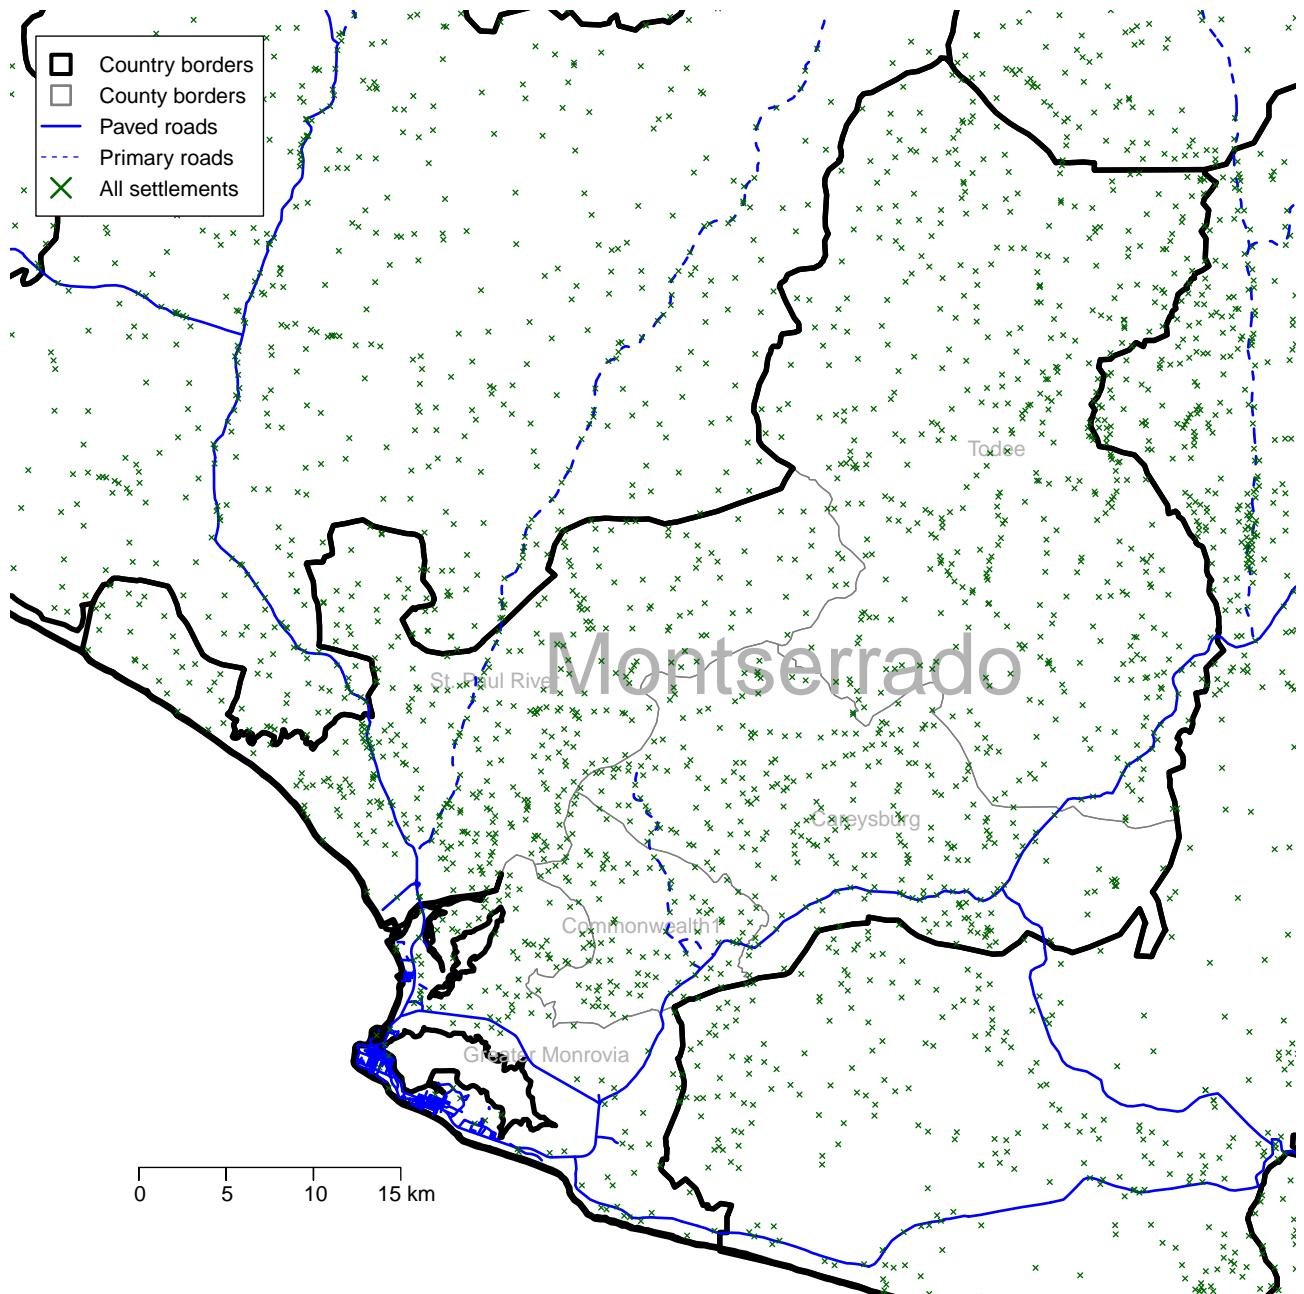
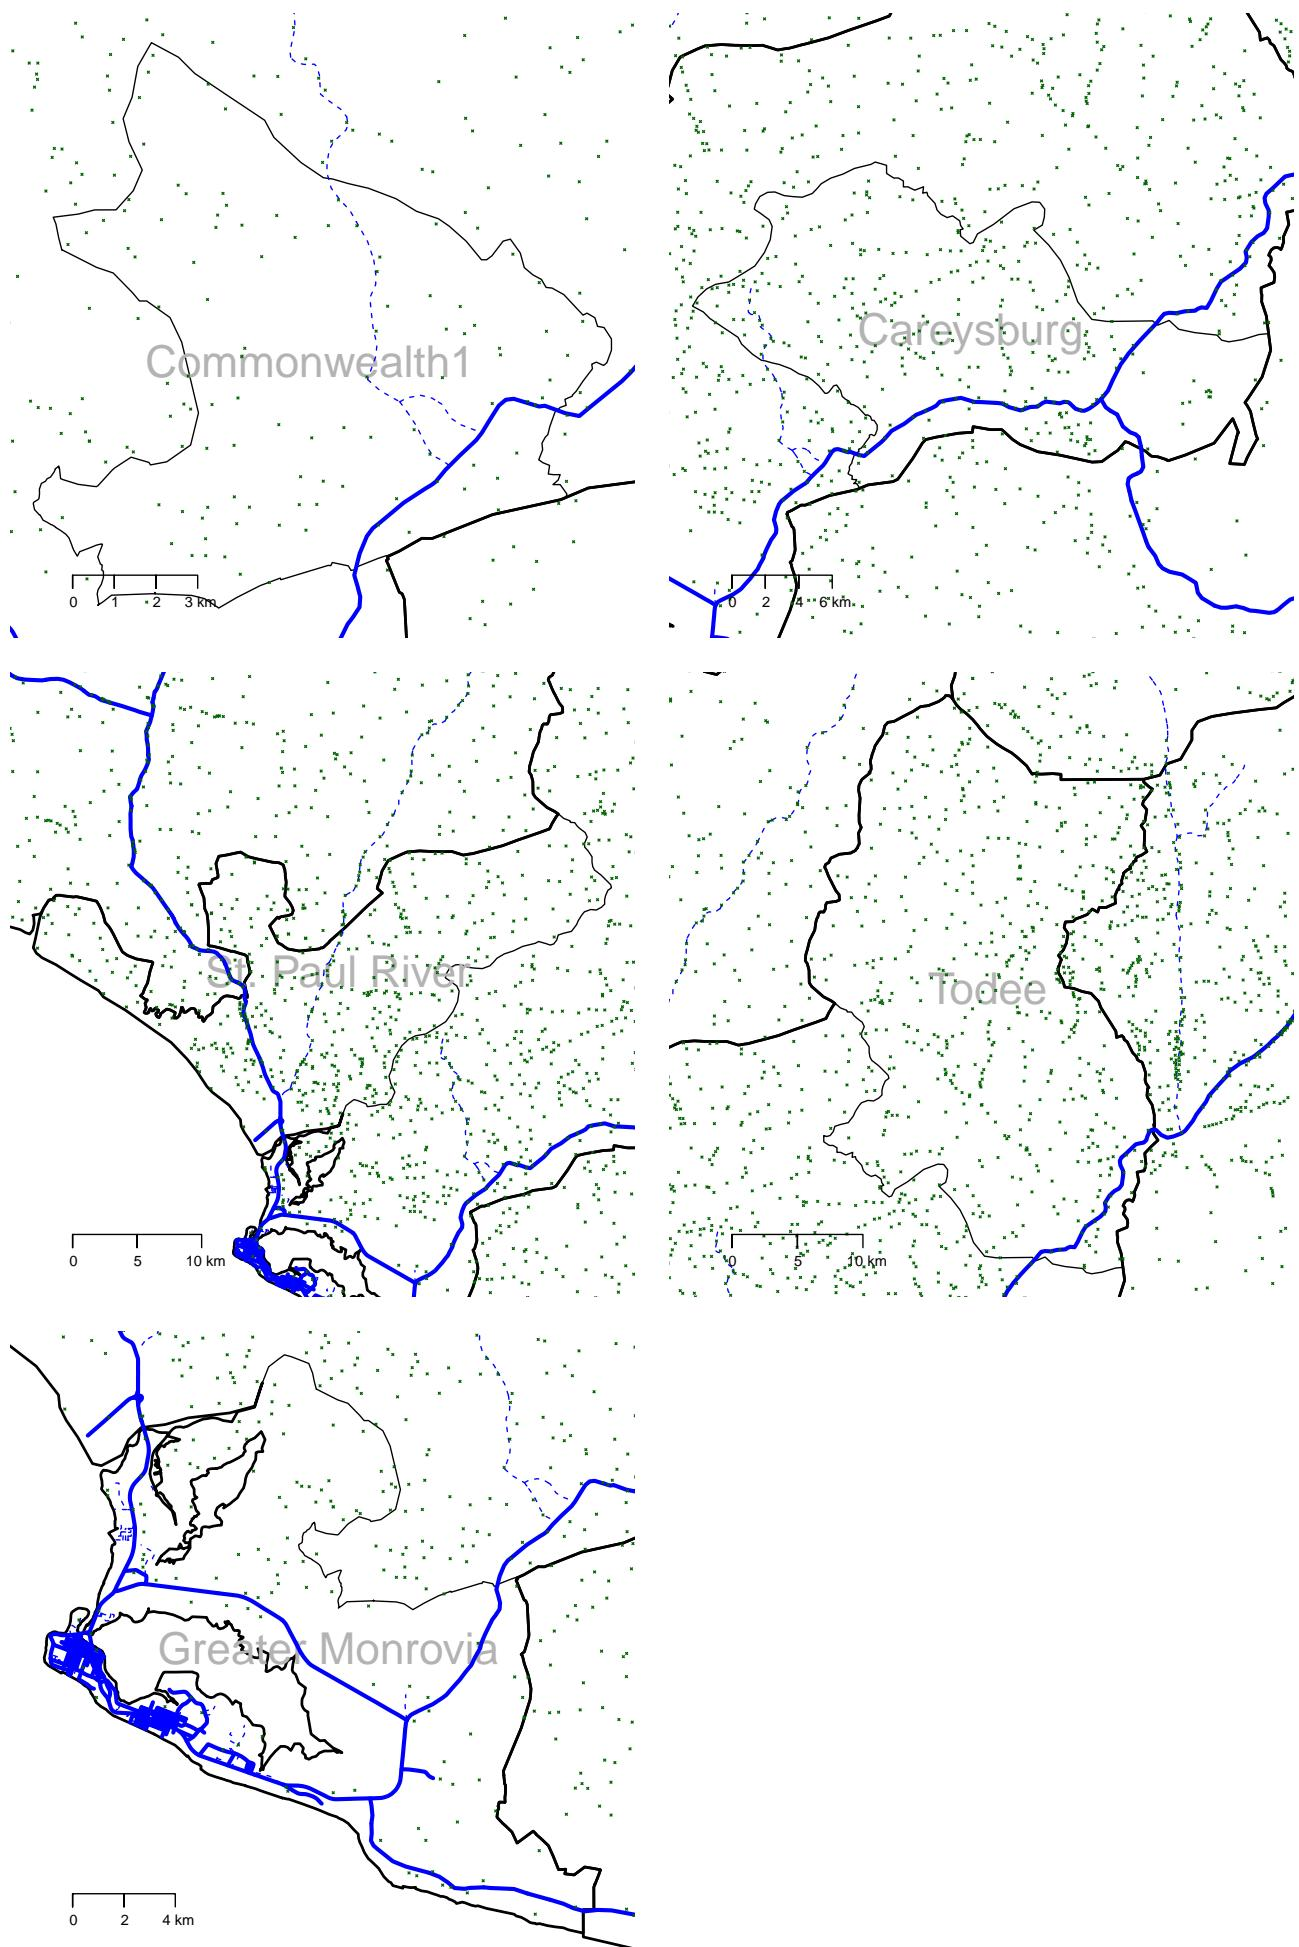

Figure 3.3: Large scale map of Montserrado county in Liberia showing all districts, roads and all settlements (towns, villages)
Figure 3.4: Large scale maps of 5 districts of Montserrado county in Liberia showing roads and all settlements (towns, villages)
- A collection of larger scale maps (a small area map but with good detail) of each of the selected counties and each of the districts within those counties in Liberia. Figure 3.3 is a large scale map of Montserrado county showing all districts, roads and all settlements. Figure 3.4 is a collection of large scale maps of each of the districts of Montserrado country showing all roads and all settlements.
The large-scale maps in Figures 3.3 and 3.4 will be useful for identifying the precise location of sampling points and for selecting the communities to be sampled.